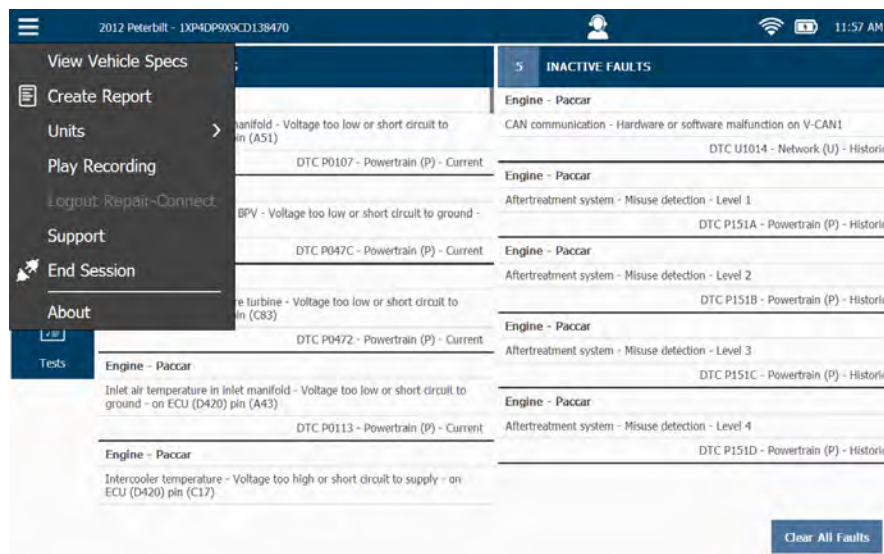

Figure 4.39 Diagnostics Menu
- 4 Touch the **Back Arrow** at the bottom of the screen to return to the Diagnostics Menu (Figure 4.39).